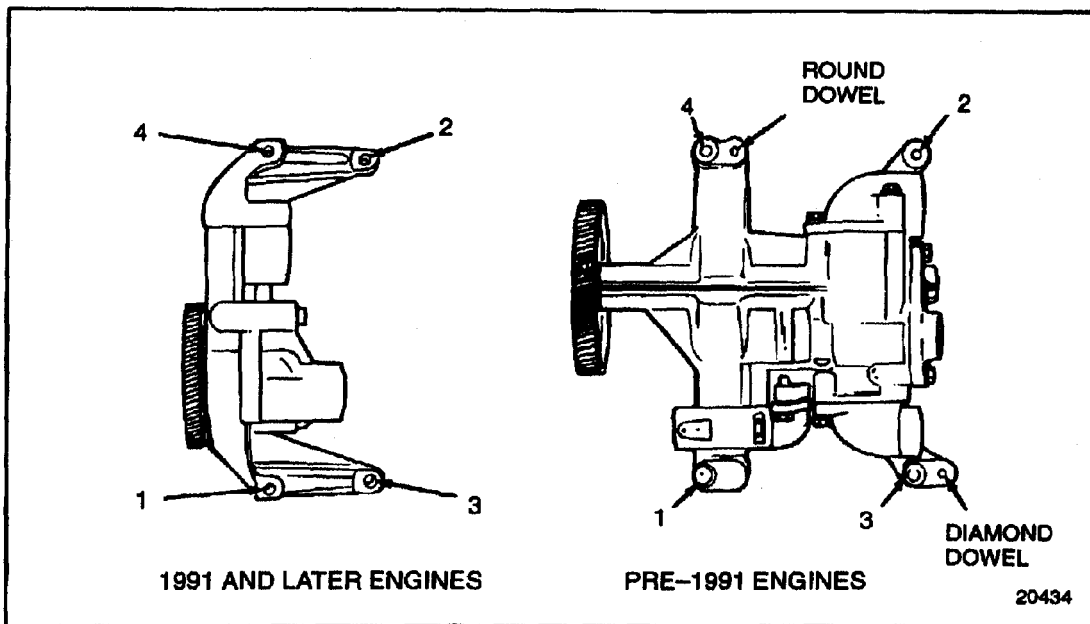

Figure 3-9 Oil Pump Bolt Torque Sequence
2. Install the four bolts through the mounting feet of the pump into the cylinder block. Torque the bolts to 58-66 N·m (43-49 lb·ft) using the torque sequence shown. See Figure 3-9.